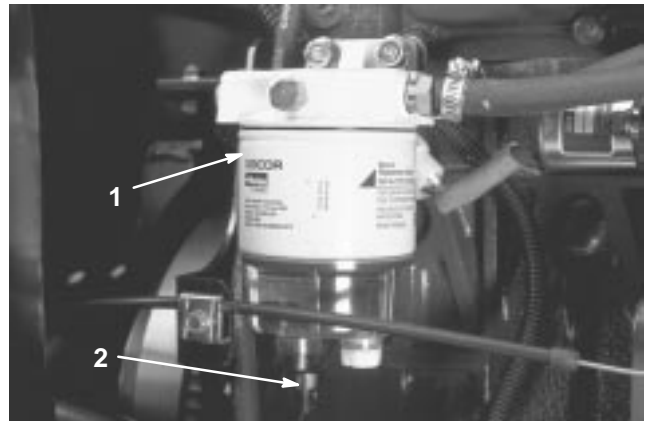

Figure 46
Drain water or other contaminants from the water separator (Fig. 46) daily.
2. Loosen the drain plug on the bottom of the filter canister (Fig. 46). Tighten the plug after draining.